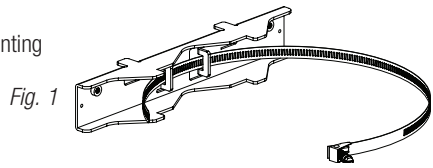

Fig. 1
- 1- Place unit at desired location and secure with mounting screws (not included) (Fig. 1, pg. 3).